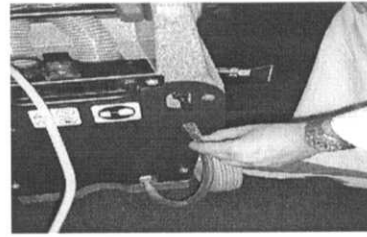

Figure 17
3. Drain remaining water from solution tank (Figure 17).